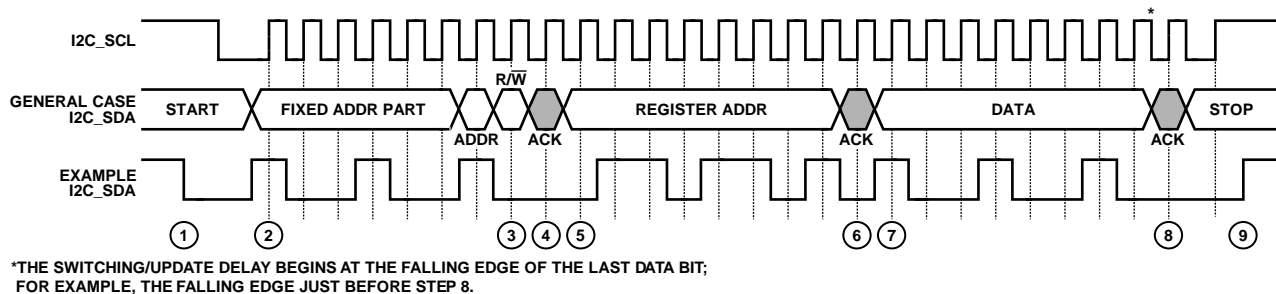

Figure 32. I2C Write Procedure
To write data to the ADV3002 register set, an I2C master (such as a microcontroller) needs to send the appropriate control signals to the ADV3002 slave device. The signals are controlled by the I2C master, unless otherwise specified. For a diagram of the procedure, see Figure 32. The steps for a write procedure are as follows:
- Send the write indicator bit (0).
- Send a stop condition (while holding the I2C\_SCL line high and pulling the I2C\_SDA line high) and release control of the bus to end the transaction (shown in Figure 32).